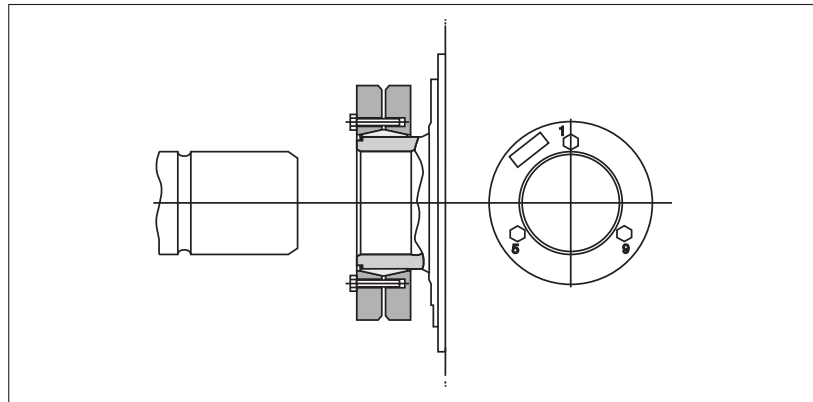

Fig. 3.12
- Clean the driven shaft and the out- and inside of the Marathon motor hollow shaft, see Fig. 3.12. Use acetone or similar.